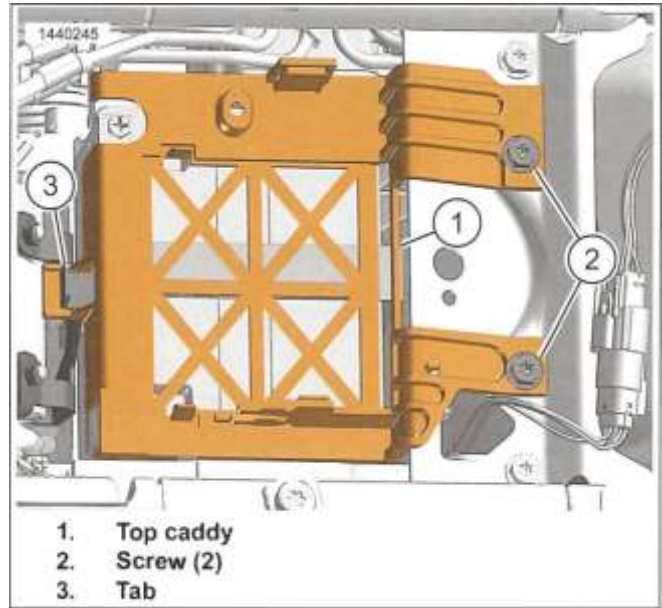

Figure 8-115. Top Caddy
1. See Figure 8-115. Remove screws (2).
2. Remove top caddy (1) from tab (3).
1. See Figure 8-115. Place top caddy (1) in position on tab (3).